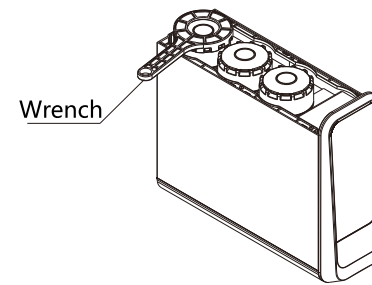
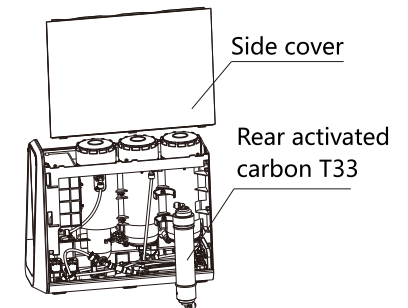

Figure 1
Figure 2
- Use the matching filter element wrench to open the cap of the filter element that needs to be replaced, as shown in Figure 1. Remove the filter element, replace it and tighten the filter element cover. The rear activated carbon has been assembled at the factory, and the side cover needs to be removed for replacement, as shown in Figure 2.